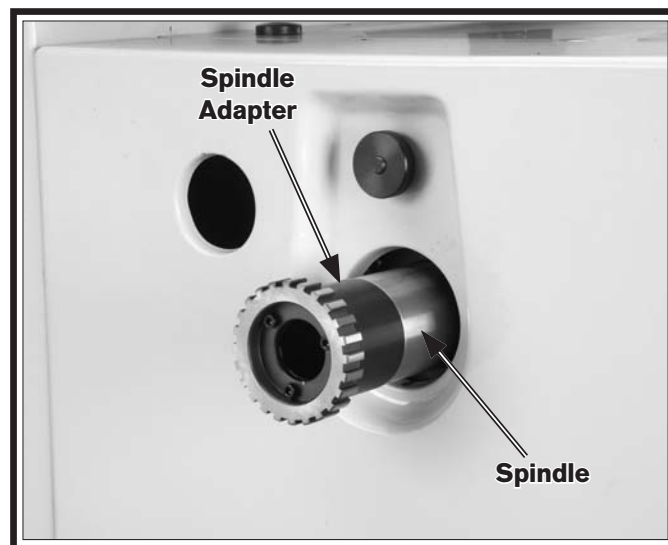

Figure 4. Spindle adapter installation.
12. Wipe the spindle adapter clean with the same rag. Next, thread the adapter onto the spindle in a counterclockwise direction until the adapter seats flush with the spindle as shown in **Figure 4**.